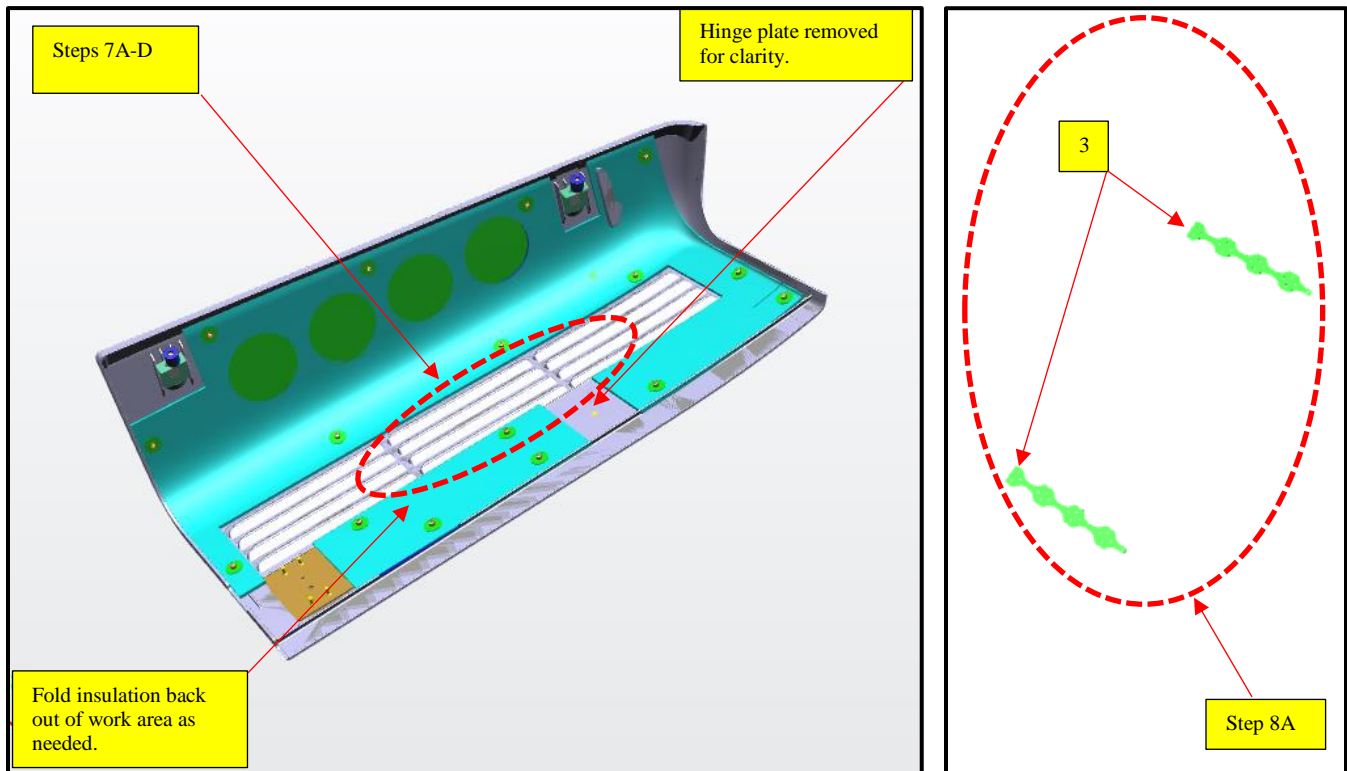

Figure 3: Louver Door Stiffener Bracket Preparation Location Reference.
- a. Fold Insulation back out of work area as needed. See figure 3.
- b. Clean the area where the stiffener brackets will be installed. See figure 3.
- 7) Prepare door louver stiffener bracket. See figure 3.